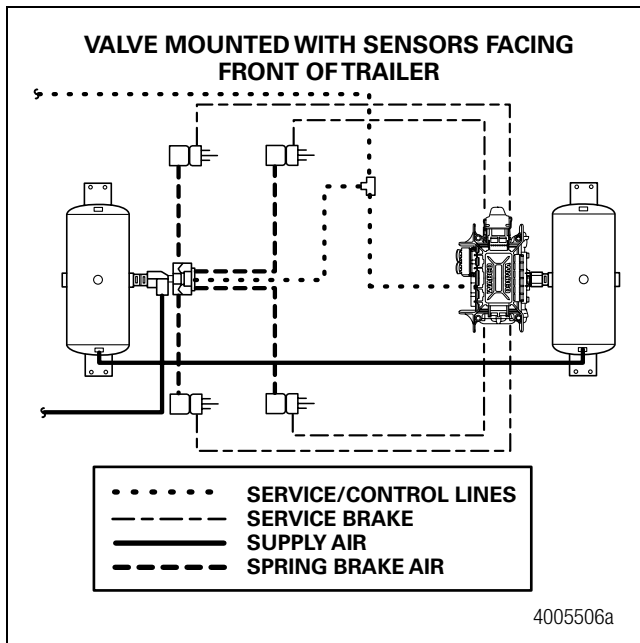
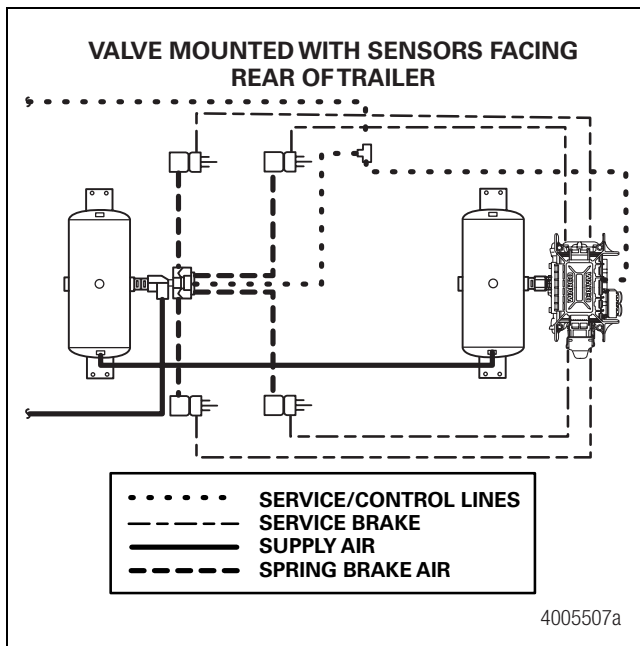

Figure 20
Figure 21
3. Connect the air delivery lines to the appropriate brake chambers (3/8-inch NPTF). Figure 20 and Figure 21.